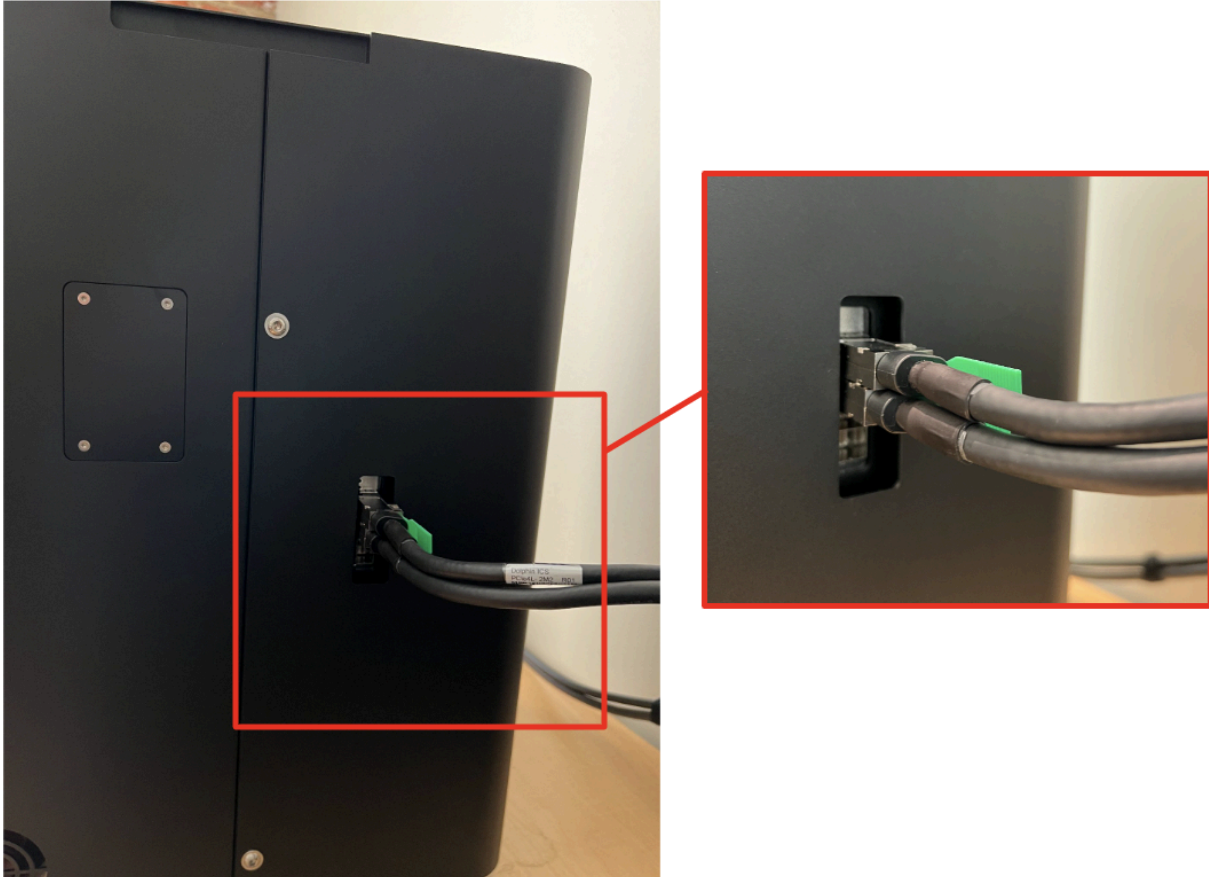

Fig 79: Dolphin cables with green flaps for removal.
- 2) By pulling **perpendicularly** to the MCAM using the green flaps, disconnect the SFF-8644 cables (see Fig 79 for reference) from both the MCAM™ workstation and MCAM™.